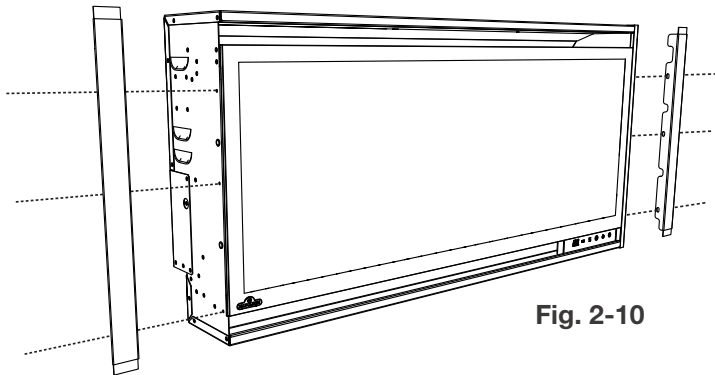

Fig. 2-10
1. Install left and right trims, and secure with screws (supplied) **(Fig. 2-10)**.